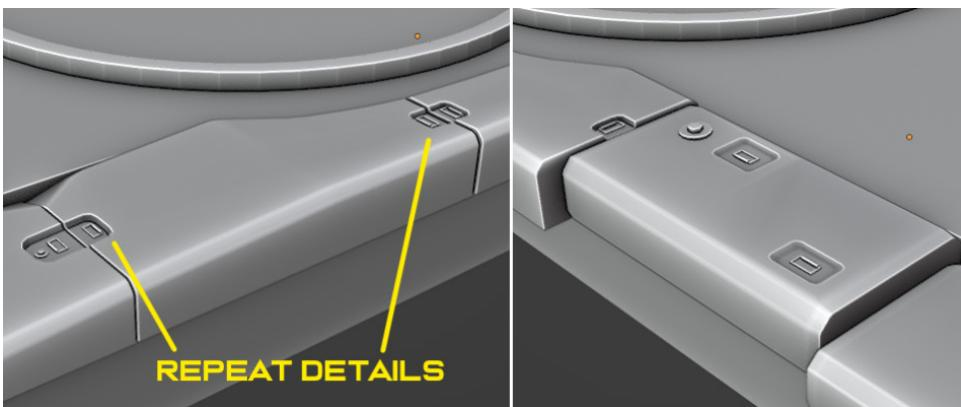

Figure 8.19 – Box details
- Fill the hole with details and repeat on both sides of the box. We are using this box to replace the basic shapes that we created at the sides of the hull. *Figure 8.19* shows some detailed ideas that can be created here.